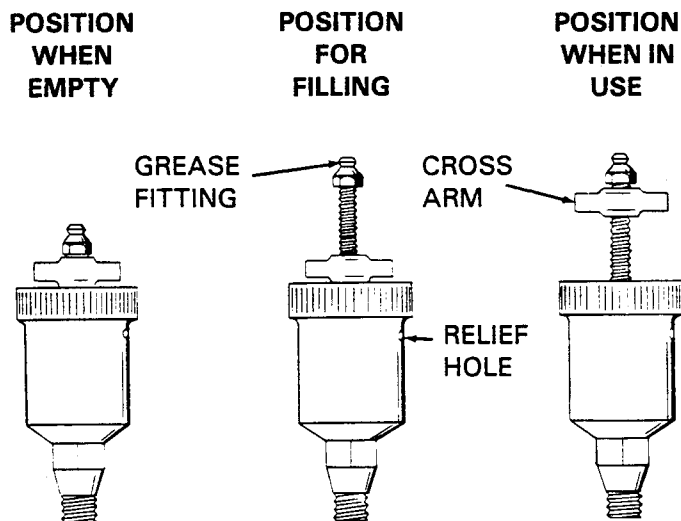

Figure 4. Automatic Lubricating Grease Cup
Before removing the seal assembly, turn the cross arm on the seal grease cup (47) clockwise until it rests against the cover (see figure 4). This will prevent the grease in the cup from escaping after the seal is removed.
Before starting the pump, fill the grease cup through the grease fitting with a good grade of No. 2 pressure gun grease until grease escapes from the relief hole. Turn the grease cup arm counterclockwise until it is at the top of the stem; this will release the spring to apply grease to the seal (see figure 4).